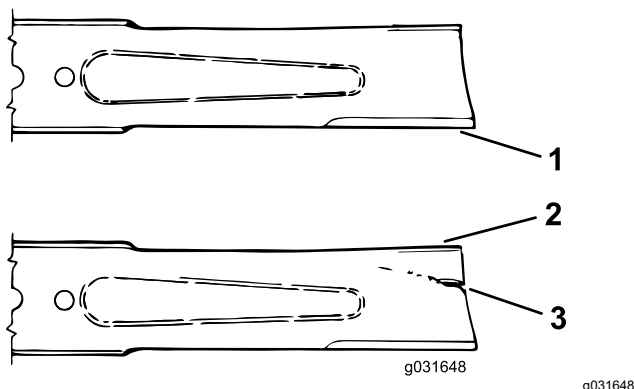

Figure 75
3. Examine the cutting ends of the blade carefully, especially where the flat and curved parts of the blade meet (Figure 75).